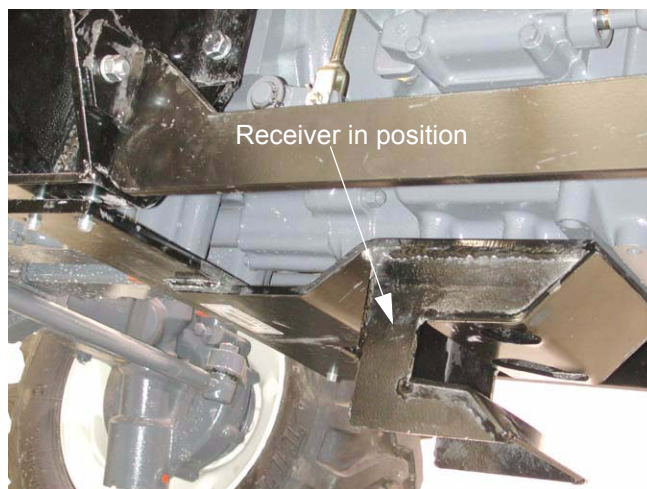

Figure 1.11
1.11. Lift the receiver into position in place of the cross member. See Figure 1.11.